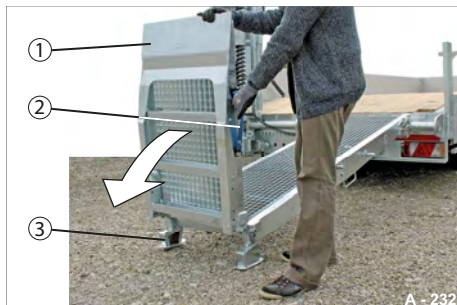

Fig. 96 Folding out the top section
- ▶ Grasp the grip (Fig. 96/2).
- ▶ Fold out the top section (Fig. 96/1).